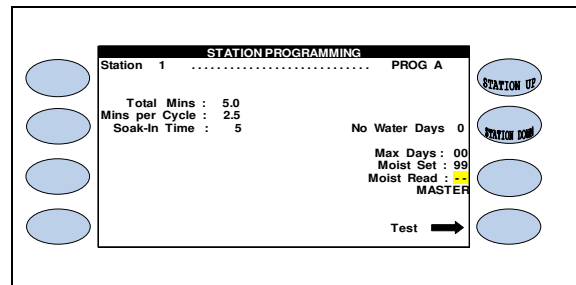

Figure 13
17. Press the **TEST** Menu key to test the station that you are currently on, If you want to test a different station use the **STATION UP** or **STATION DOWN** keys to the right of the display screen (Figure 13).